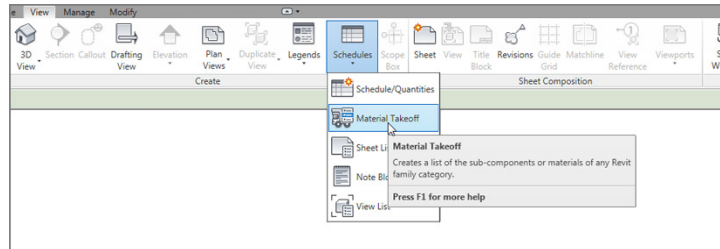

FIGURE 11.25: To add a new material takeoff, you can go to the View tab.
1. On the View tab, click Schedules ➤ Material Takeoff, as shown in Figure 11.25.